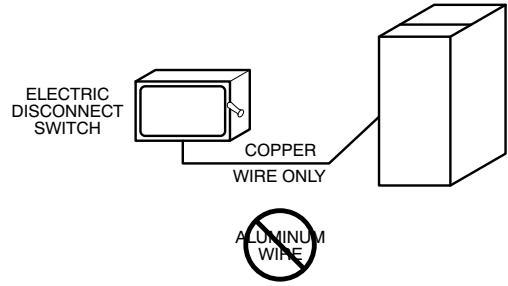

Fig. 33 – Field-Supplied External Electrical Box on Furnace Casing 115-V Wiring
Do not connect aluminum wire between disconnect switch and furnace. Use only copper wire. See Fig. 33.
1. Drill two (2) 1/8-in. (3 mm) pilot holes through the dimples in the furnace casing near the 7/8-in. knock-out on the side of the casing. Do not remove the knock-out in the side of the casing.
9. Connect field power and neutral leads to furnace power leads inside the external electrical box as shown in Fig. 33.